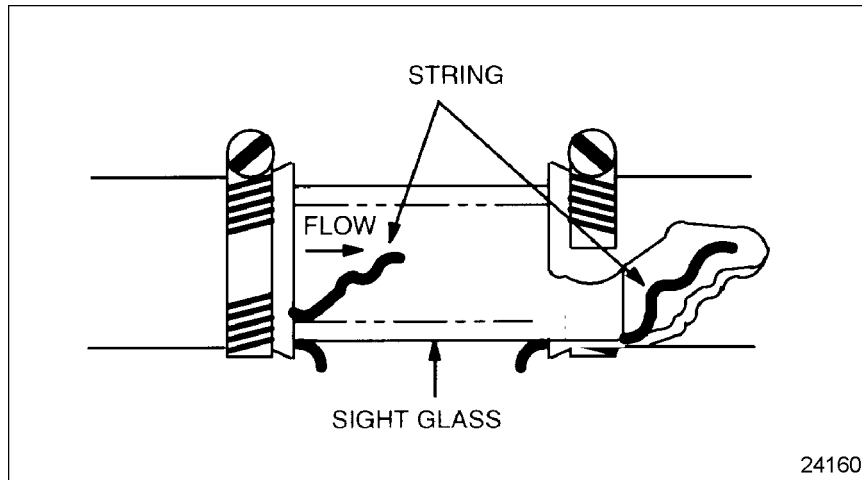

Figure 12-4 Radiator Flow Check
1. Install a sight glass with string (both ends) to the radiator outlet hose near radiator and before fill and heater return lines; see Figure 12-4.